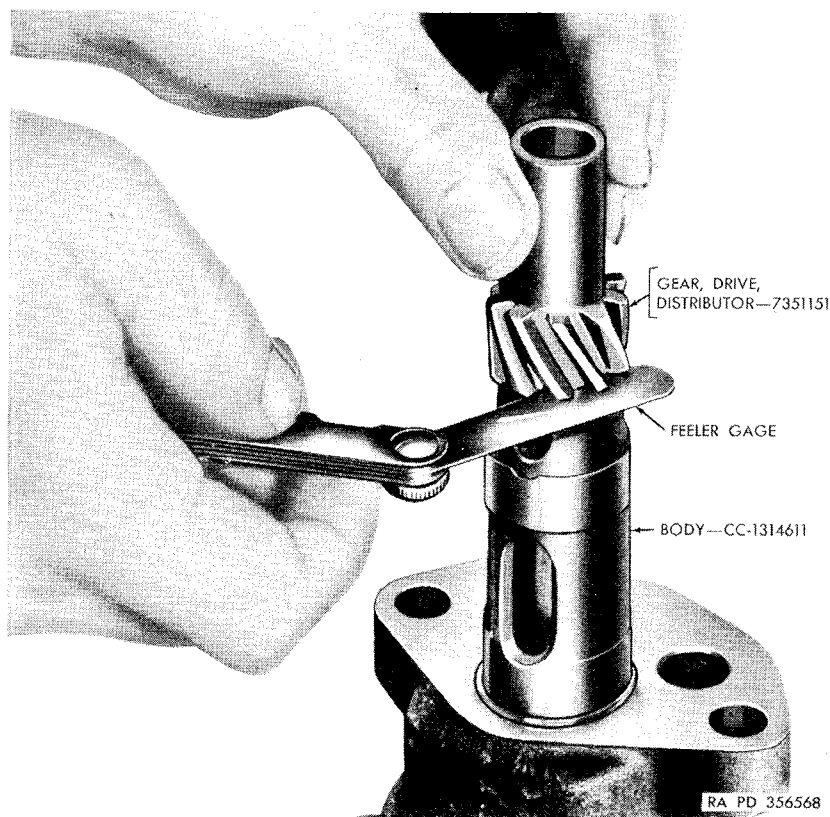

Figure 75. Checking oil pump shaft end play.
- (1) Press inner rotor into the body with hand; then check clearance with feeler gage (fig. 75). Drive shaft end play clearance should not exceed limits in repair and rebuild standards (par. 72).
- (2) If distributor drive gear pin holes do not line up, drill new hole through distributor drive gear and drive shaft using a  $\frac{5}{32}$ -inch drill, at right angles to other holes. Peen ends of pin after installation.